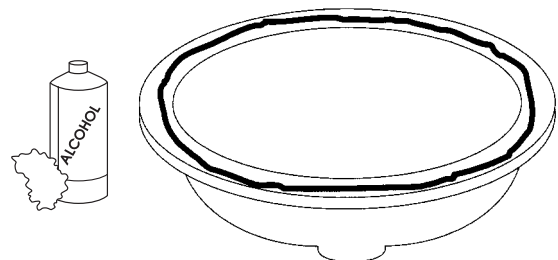

Figure 21
- Clean the bowl's top flange and the cutout with denatured alcohol and a clean, white cloth (see Figure 21).
- Apply a generous bead of color-matched Silicone Sealant to the inside edge of the bowl flange (see Figure 21).